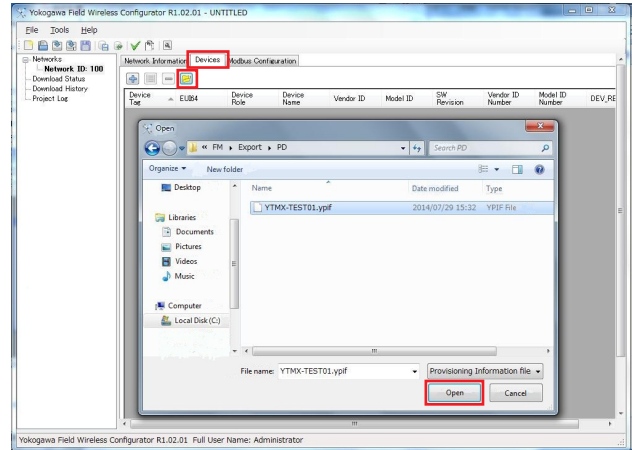

Figure 16
Click the Devices tab and then the yellow file open icon. Open the provisioning information file (YTMX-TEST01.ypif) that you created in step (3) (figure 16). The provisioning file is in C:\FM\Export\PD.